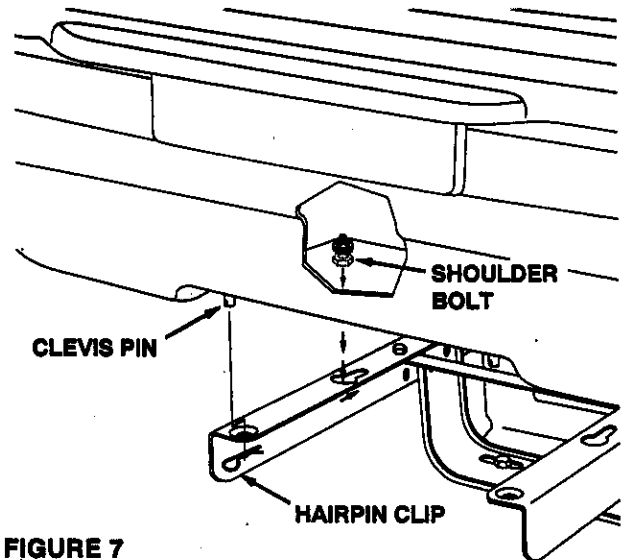

FIGURE 7
- Place the tool box onto the frame so that the heads of the shoulder bolts in the bottom of the tool box fit down into the keyhole slots. Slide the tool box forward, slightly tilting up the back end, until the clevis pins in the bottom of the tool box drop down into the holes at the rear of the frame. Secure the tool box to the frame with two 1/8" hairpin clips through the clevis pins. See figure 7.